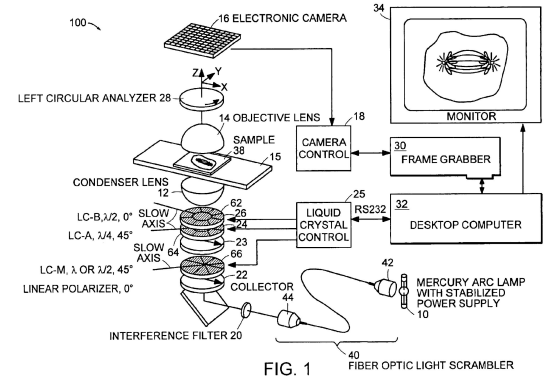

Figure 4: *Oldenbourg's illumination Optics System*
- Figure 4:C. Zeiss, "US6924893B2 - Enhancing polarized light microscopy - Google Patents", *Patents.google.com*, 2020. [Online]. Available: <https://patents.google.com/patent/US6924893B2/en?q=microscope+condensors&oq=microscope+condensors>. [Accessed: 01- Oct- 2020].